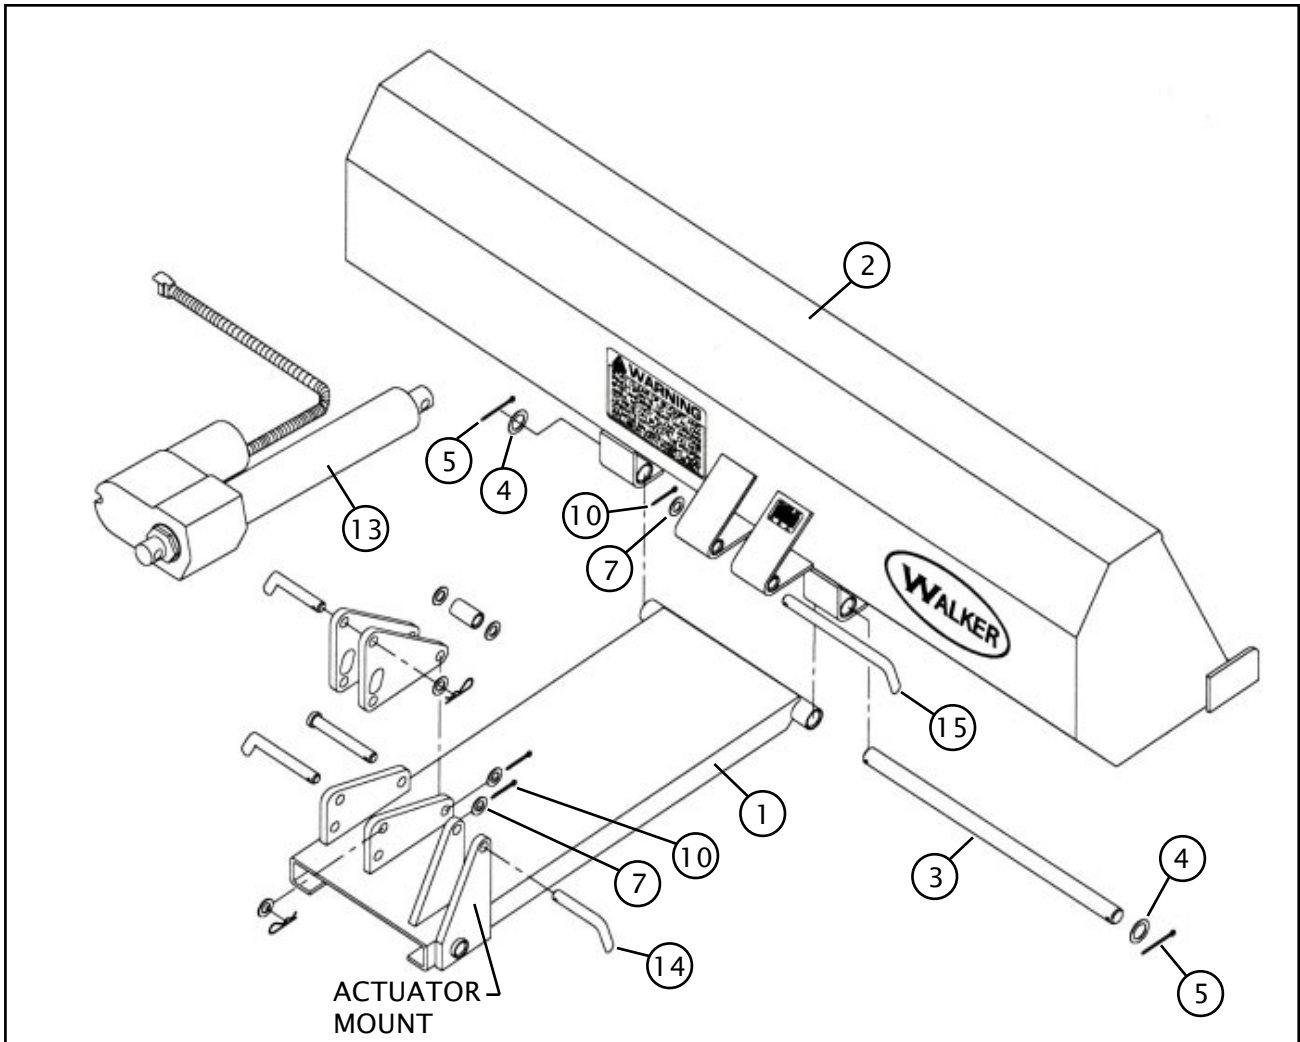

FIGURE 3
a) Position the tongue (Fig. 3, Item 1) between the two bottom pivot brackets on the bucket (Fig. 3, Item 2).
b) Lining up the holes, insert the 3/4" pivot pin (Fig. 3, Item 3). Place the 3/4" ID flat bushing (Fig. 3, Item 4) over each end of the 3/4" pivot pin, insert the 1-1/4" cotter pins (Fig. 3, Item 5) into the hole at each end of the 3/4" pivot pin and secure.
e) Align the actuator (Fig. 3, Item 13) back mounting hole with the tongue actuator mount, insert bent arm pin (Fig. 3, Item 14) into the holes, place a 1/2" ID flat bushing (Fig. 3, Item 7) over the end of the bent arm pin and secure with a 1" cotter pin (Fig. 3, Item 10). Align the actuator front mounting hole with the bucket actuator brackets, insert bent arm pin (Fig. 3, Item 15) into the holes, place a 1/2" ID flat bushing (Fig. 3, Item 7) over the end of the bent arm pin and secure with a 1" cotter pin (Fig. 3, Item 10).